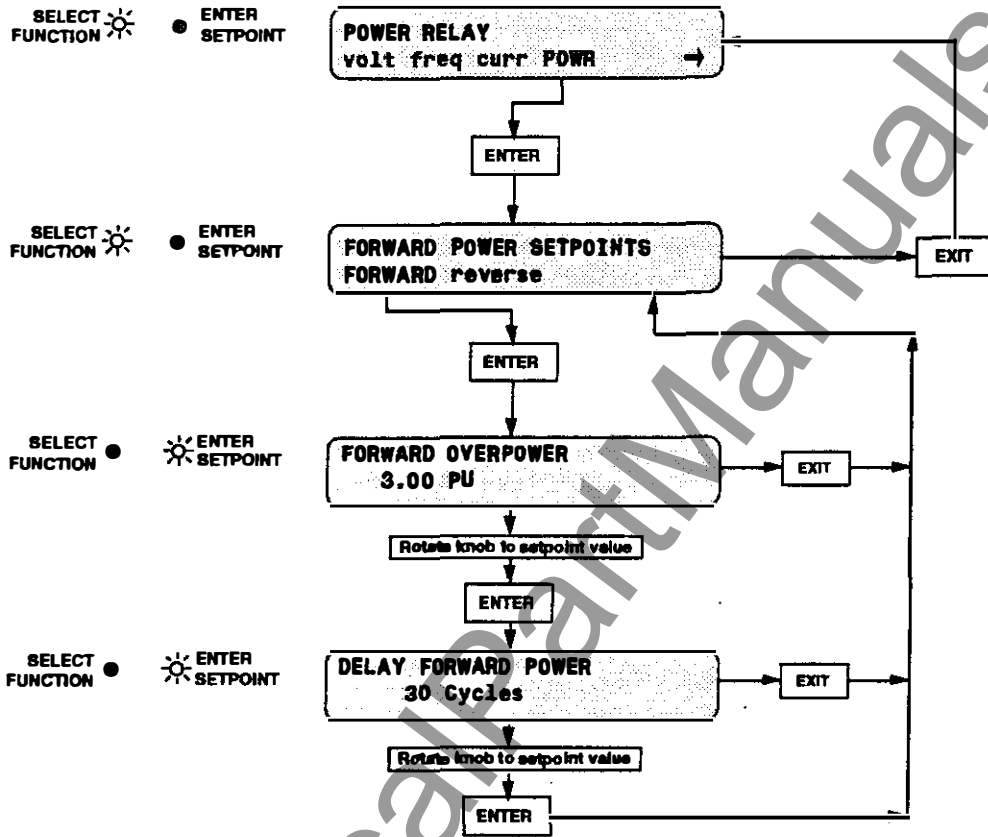

FIGURE 5-13 Power Relay: Forward Overpower (32F)
The **POWER RELAY** menu selection provides access to the power functions of the M-0420. Figures 5-13 and 5-14 illustrate the software flow for these functions. Setpoint ranges and initial settings are provided in Chapter 2, **Application**, and in the Specifications at the front of this book.
- 32F Forward Overpower *Figure 5-13*